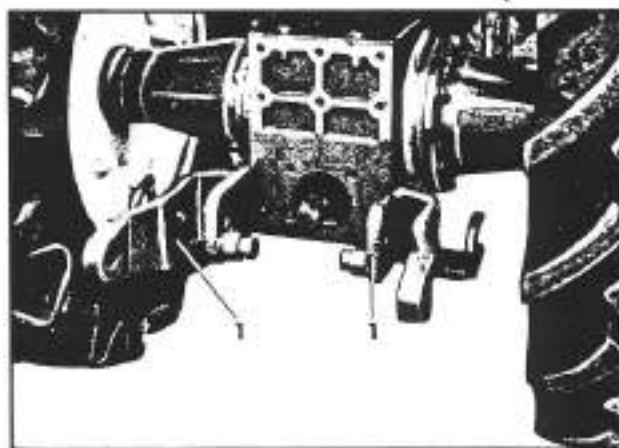

Fig. 3-43. Removal of the hitch linkage support arms
- b. Remove completely the hitch linkage support arms (1; fig. 3-43).